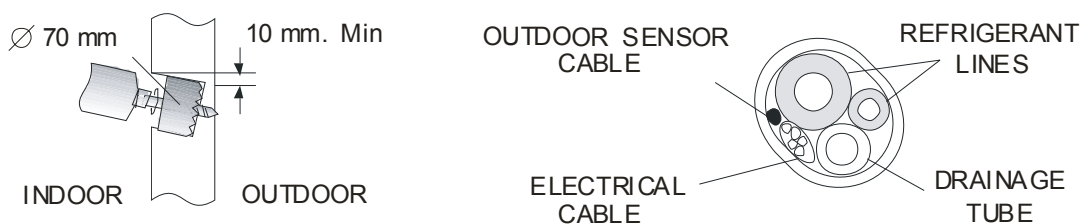

Fig. 6-5
- To make the connections between the indoor and outdoor units, a 70 mm hole should be drilled for the refrigerant lines, drainage hose and electrical cable passage, through the wall, as shown in Figure 6-5.